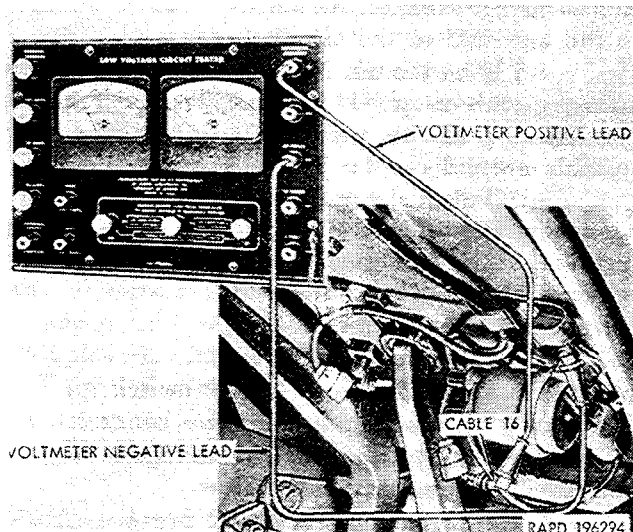

Figure 2-41. Checking for current to dimmer switch.
(h) Disconnect cable (16) from the dimmer switch. With the voltmeter negative (—) test lead connected ((c) and (d) above), attach the clip end of the positive (+) test lead to the terminal cable (16, fig. 2-41). Turn the light switch to SER DRIVE position and observe the voltmeter lower scale reading. If voltmeter shows battery voltage